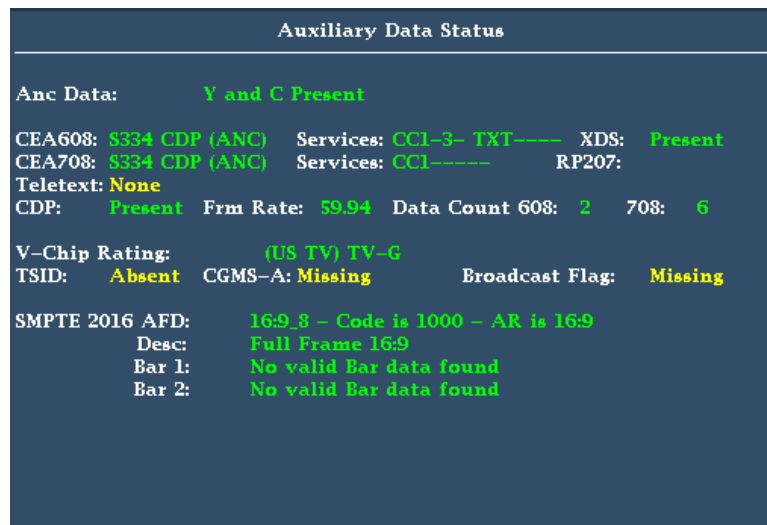

Figure 88: Auxiliary Data Status display
4. Select **Aux Data Status**. The Auxiliary Data Status display shows the status of the closed caption data. (See Figure 88.)
View the graticules in the Picture display. AFD information can viewed in the Auxiliary Data Status display. (See Figure 88 on page 181.)